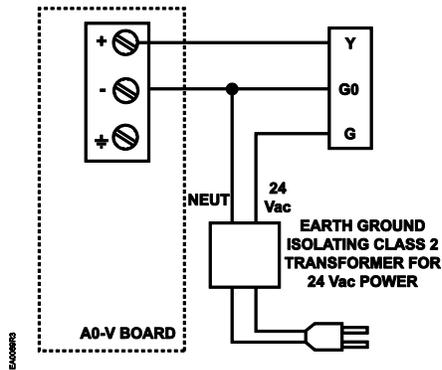

Figure 12. SSD61U/SSD61.5U Wiring Diagram.
3. Attach the wires to the terminal plug. (Reference Wiring, See Figure 8 and Figure 12.)